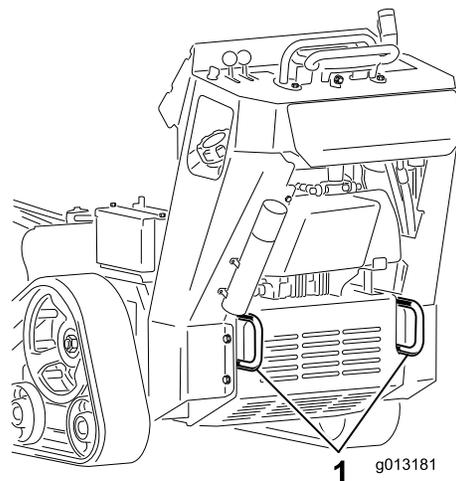
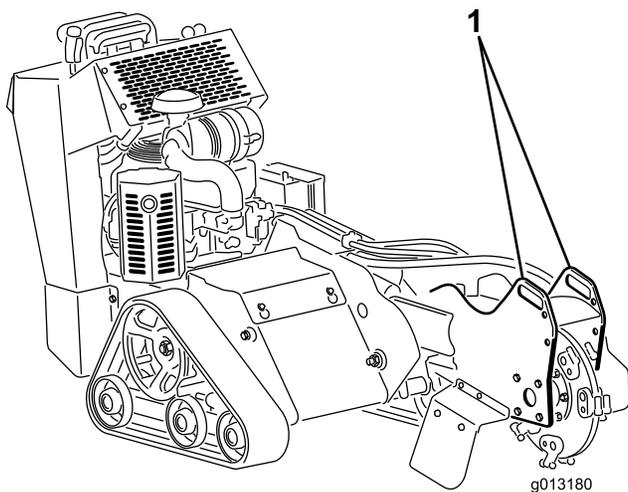

Figure 24
Figure 23
3. Secure the machine to the trailer with chains or straps using the tie-down/lift loops at the front and rear of the machine (Figure 23 and Figure 24).
You can lift the machine using the tie-down/lift loops as lift points (Figure 23 and Figure 24).